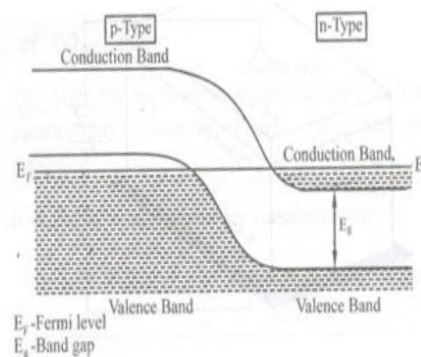

Fig.5.14
- (i) The population inversion in a p-n-junction is achieved by heavily doping p and n materials, so that the Fermi level lies within the conduction band of n type and within the valence band of p type as shown in figure 5.14.